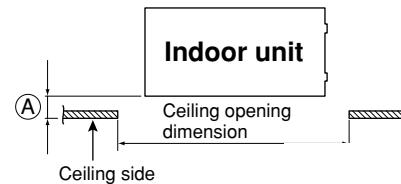

Fig. 6-11
- Ⓐ must be within the range of 1/2"(13mm) to 23/32"(18mm). (Fig. 6-11)
- (1) Check that the ceiling hole is 23-5/8" (600 mm) × 23-5/8" (600 mm) (Fig. 6-11)
- (2) Confirm that the position of the indoor unit and the ceiling as shown in the diagram. If the positions of the ceiling surface and unit do not match, air leakage, water leakage, flap operation failure, or other problems may occur. (Fig. 6-11)